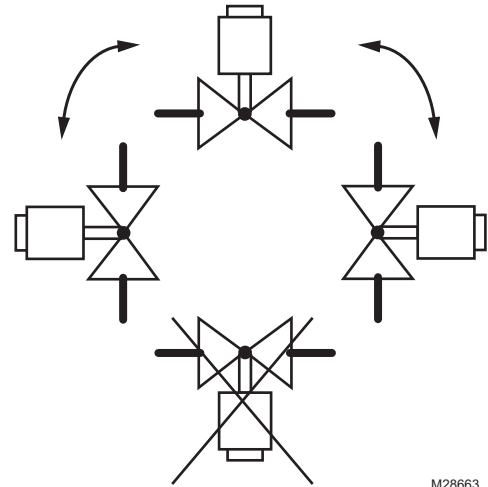

Fig. 5. Mounting position.
Vertical to 90 degrees from vertical, refer to Fig. 5.
Prepare piping and install valve (Fig. 5)
4. Install valve in a horizontal pipe line, (refer to Fig. 5 for mounting position) with the gas flow matching the direction indicated by the arrow on the casting.